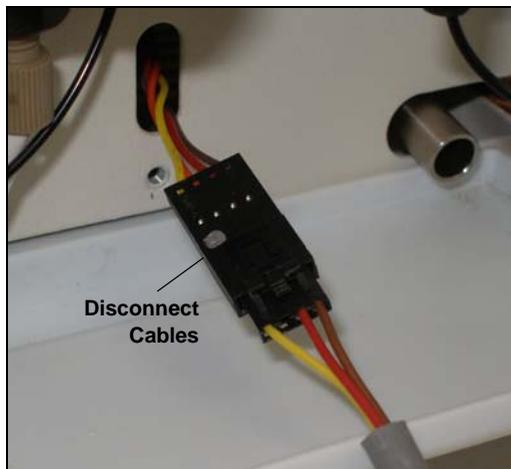

Figure 5-22. Leak Sensor Cable
- The cable attached to the leak sensor is connected to a matching cable inside the Dionex ICS-1100. Continue pulling the cable until the connectors for the two cables are outside of the panel (see Figure 5-22).